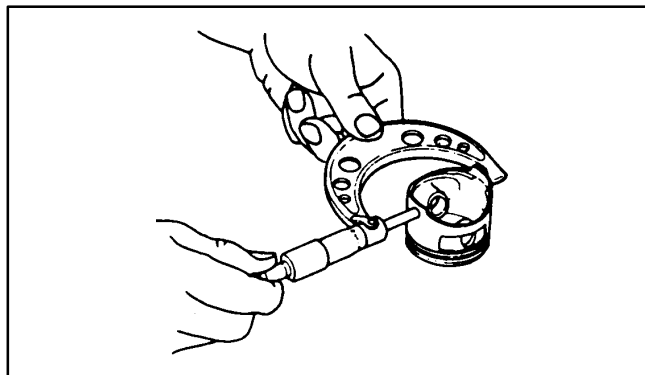

FIGURE 10-25. PISTON SKIRT MEASUREMENT
1. Measure the piston skirt O.D. with an outside micrometer (Figure 10-25).